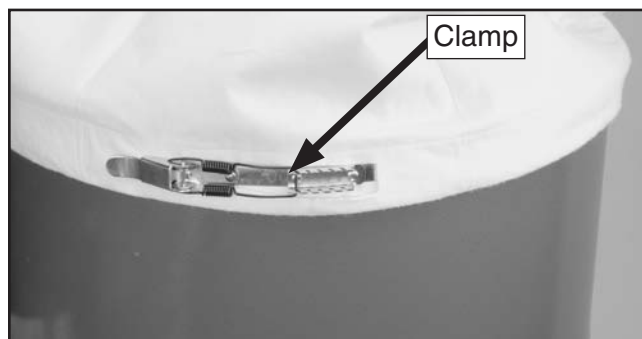

Figure 33. Upper collection bag secured.
10. Secure the upper bag to the collector body with the clamp shown in **Figure 33**.